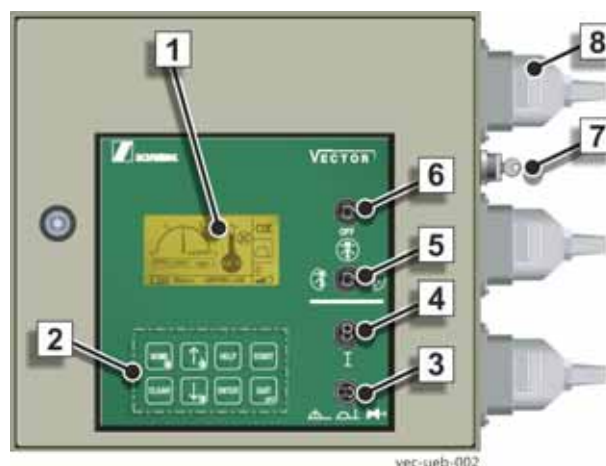

Fig. 386 Example: Switch cabinet of a truck-mounted concrete pump
- Safety fuses in the switch cabinet or control cabinet of the concrete pump, see **(Fig. 386)** and **(Fig. 387)**